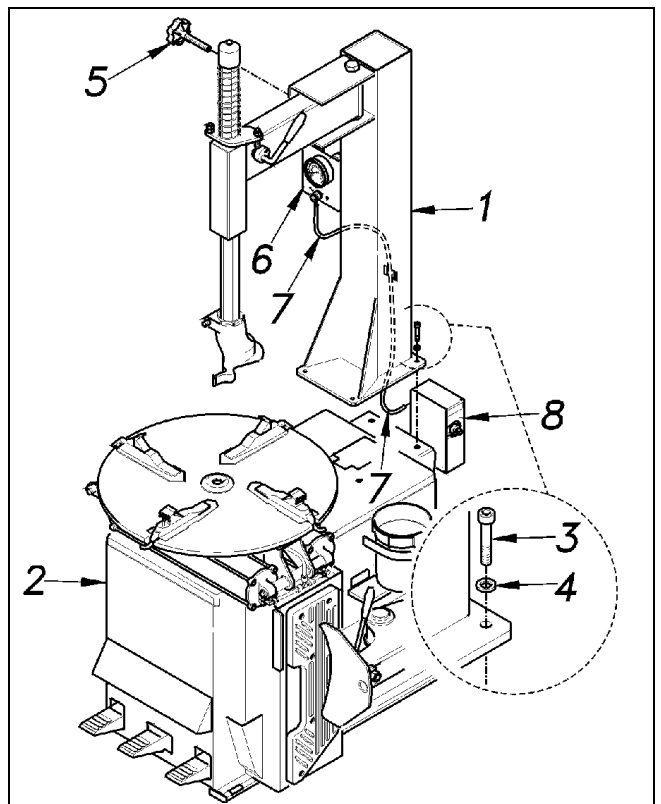

Fig.8
B. Lift the column (#1 Fig.8) with an appropriate lifting tool (crane, fork lift) and a belt of sufficient capacity (2000N). For this operation it is required to be helped by a second person.
C. Bolt the column (#1 Fig.8) to the cabinet (#2 Fig.8) with the four screws (#3 Fig.8) and washers (#4 Fig.8). Screws must be firmly tightened.
D. Assemble the adjustment knob (#5 Fig.8) to the tower.
E. Assemble the inflation gauge (#6 Fig.8) to the tower.
F. Attach the air hose (#7 Fig.8) to the inflation gauge.
G. Attach the air hoses (#7 Fig. 8) of the column to the air control inflation device (#8 Fig. 8).